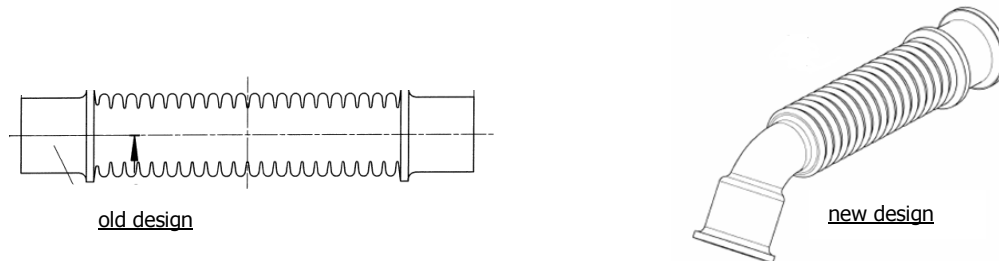

Figure 2: old and new oil separator hose design
3. Exchange the oil separator hose – old design – by the new design with the part number E4A-53-100-501 Rev. 020 (see Figure 2).